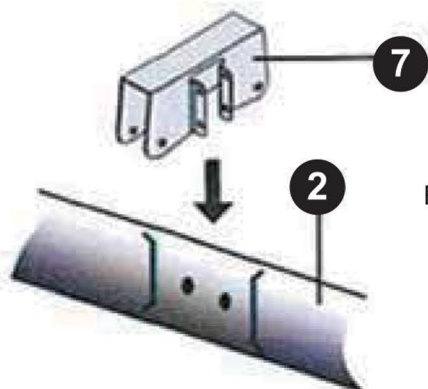

Fig. 2
Step 1. Slide Glider bracket over Top Bar on Glider side and align to the 2 horizontal holes (Fig. 2).